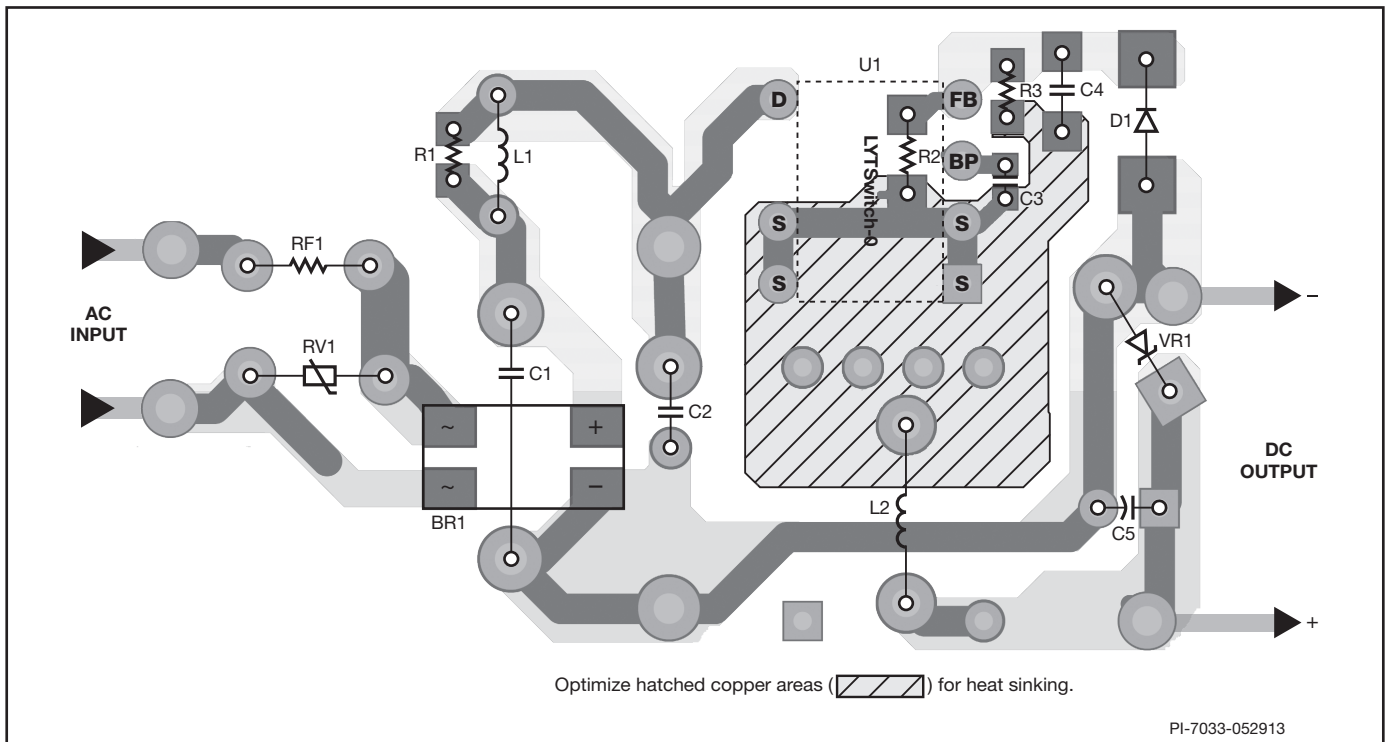

Figure 7a. Recommended Printed Circuit Layout for LYTSwitch-0 in a Buck Converter Configuration using P Package.
The loop formed between the LYTSwitch-0, inductor (L2), free-wheeling diode (D1), and output capacitor (C5) should be kept as small as possible. The BYPASS pin capacitor C3 (Figure 7a) should be located physically close to the SOURCE (S) and BYPASS (BP) pins. To minimize direct coupling from